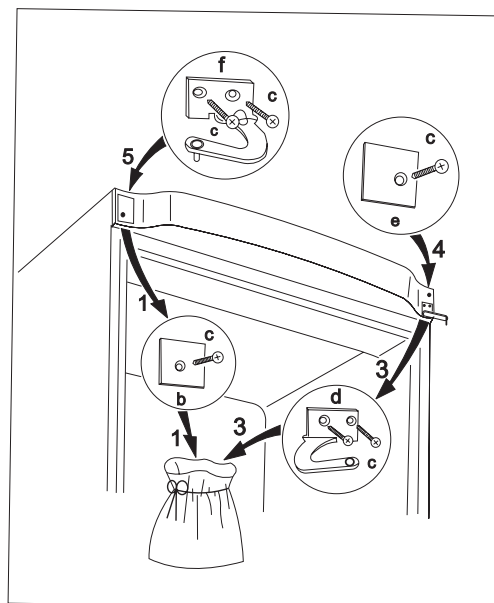

fig. 1.
5. Unscrew the 2 screws (c), remove the door mount at the top right-hand side (d), and unscrew the screw on the other side (c), remove the panel (b) and place in an empty plastic bag (Fig. 1).
22. Remove the top left-hand side door mount (f) and the panel (c) from the plastic bag and attach using the screws (c) (Fig. 1).